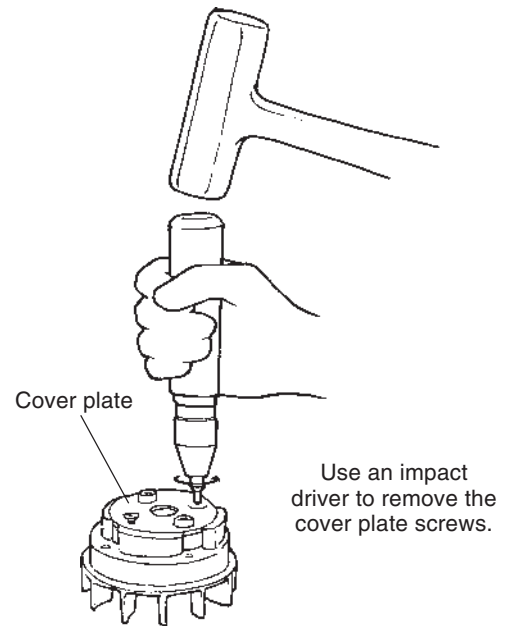

Figure 6.6 Removing the Cover plate.
**STEP 2.** Remove the two countersunk screws securing the cover plate using an impact driver fitted with a No. 2 phillips tip (Figure 6.6). Remove the cover plate.